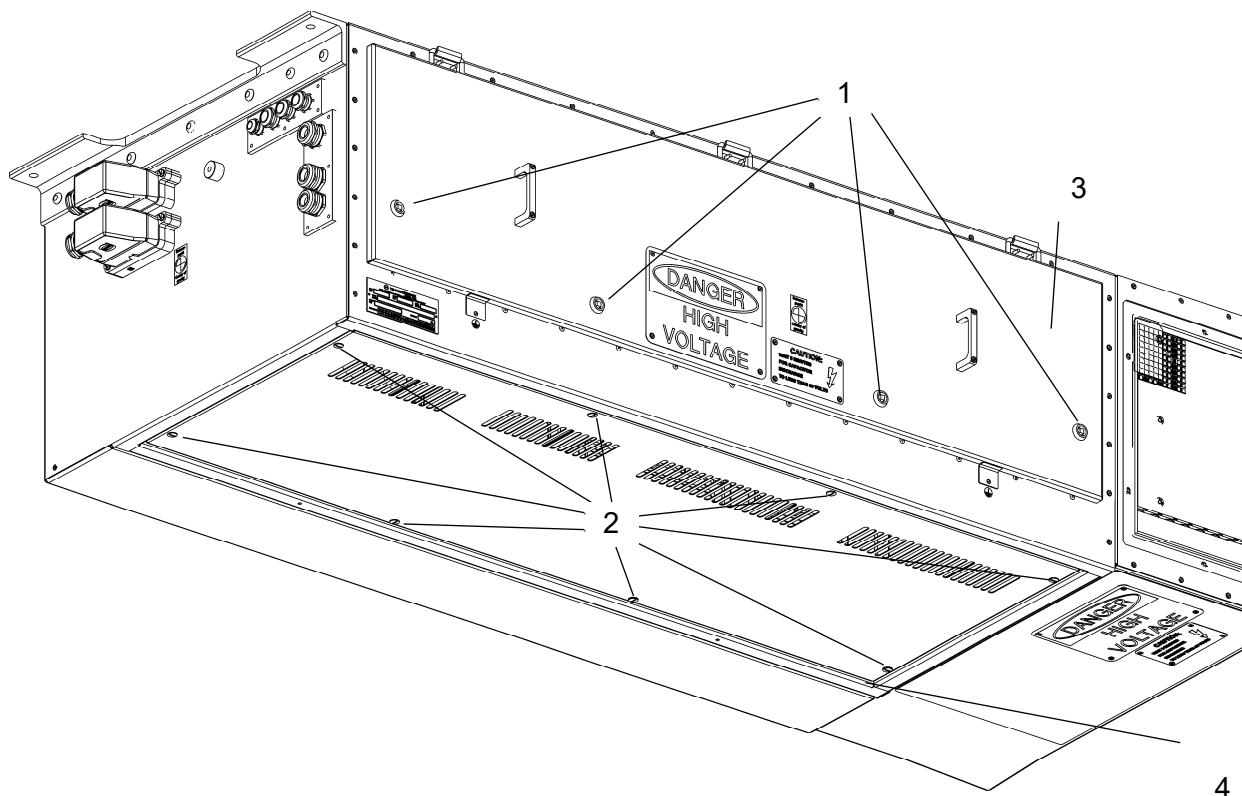

Figure 3-18: Dry Section Service Cover Fasteners
- 4 x compression latch (1) on the service cover (3).
- 8 x quarter turn fastener (2) on the bottom cover (4).
1. Check each compression latch (1) for proper function. See Figure 3-18. If the latch does not close tightly, replace it. For replacing see section 3.3.12.1.
2. Inspect all eight quarter-turn fasteners (2) of the bottom cover (4). If the latch does not close tightly, replace it. For replacing see section 3.3.12.2.